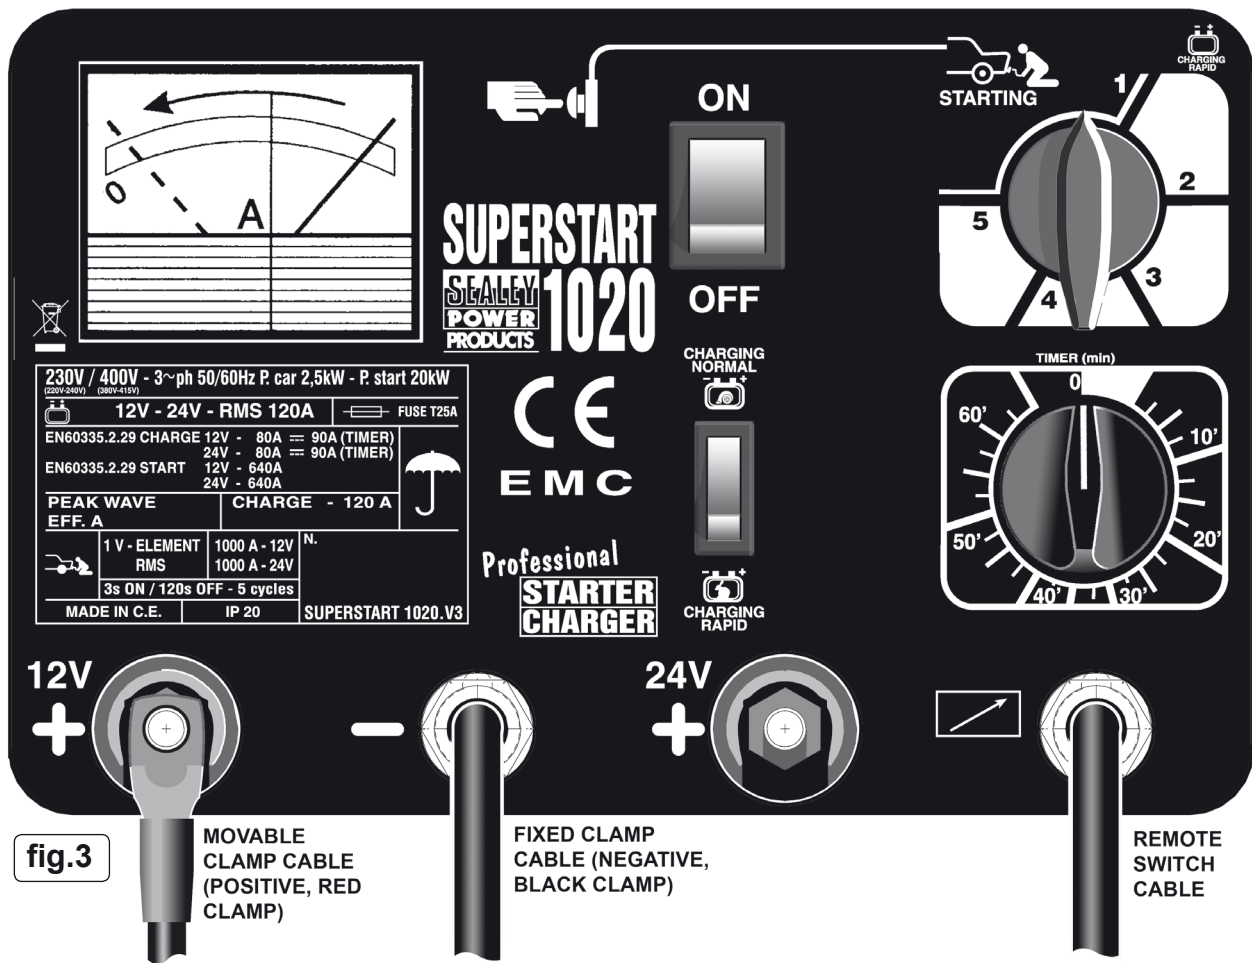

fig.3
- 3.1.2. Attach the black clamp to the fixed cable that comes directly out of the charger. (See fig.3)
- 3.1.2. Attach the red clamp to the moveable cable. (See fig.3)
- 4.2.1. Set the charger voltage to match that of the battery by attaching the positive (+) lead to either the 12 or 24 volt terminal. See fig.3.
- 4.3.3. Check the current delivery to the battery by reading the ammeter on the front of the battery charger (fig.3). Initially, there will be a high rate of charge which will slowly decrease according to the capacity and condition of the battery.
- 4.6.2. Ensure the starter/charger is disconnected from the mains power supply and set the charger voltage to match that of the battery by attaching the positive (+) lead to either the 12 or 24 volt terminal. See fig.3.